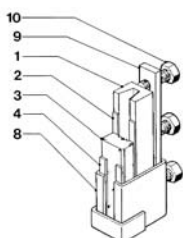
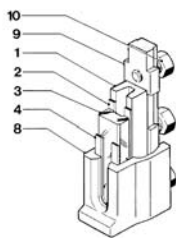
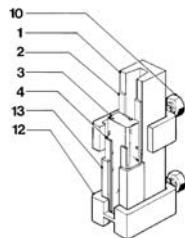
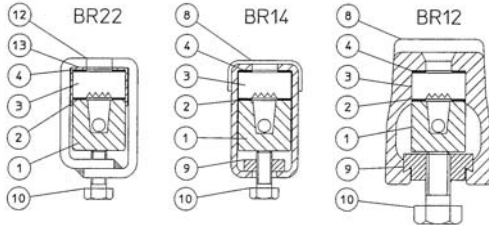

Fig. 817 - BR14
Fig. 816 - BR12
Fig. 760 - BR22
Fig. 3 - BR22, BR14 e BR12
1. Refer to proper level gauge type to identify items (Table 2 and assembling Dwg. Fig. 817 and Fig. 3)
3. Insert wedge piece (9) inside gauge body (8).
1. Refer to proper level gauge type to identify items (Table 2 and assembling Dwg. Fig. 816 and Fig. 3)
3. Place cushion joint (4) inside gauge body (8)
4. Insert reflex glass (3) inside gauge body, with prismatic shape surface faced to upper part (opposed side respect to cushion joint); be careful to avoid contact with metallic items. Screw tightening bolts (10) on wedge piece (9).
5. Place sealing joint (2).
6. Insert centre piece (1) inside gauge body (8), carefully checking that sealing joint stay in the correct position between glass and centre piece.
7. Insert wedge piece (9) on gauge body (8).
1. Refer to proper level gauge type to identify items (Table 2 and assembling Dwg. Fig. 760 and Fig. 3)
3. Insert clamps (12) around centre piece (1) equally spaced.
4. Place sealing joint (2).
5. Place reflex glass (3) over centre piece, with prismatic shape surface faced to sealing joint; be careful to avoid contact with metallic items.
6. Place cushion joint (4).
7. Place angular pieces (13).